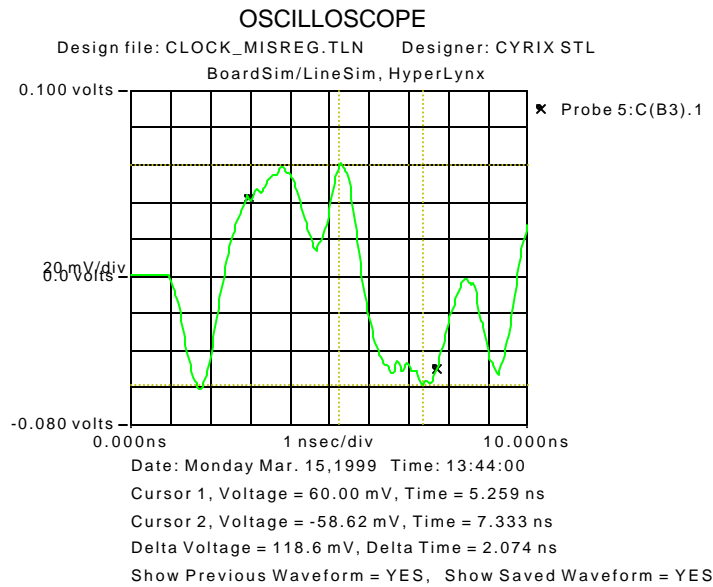

Figure 3. Crosstalk Injected On a Victim Net Due to Nearby 133 MHz Clock.
2. Meeting signal integrity requirements. Two important signal integrity requirements are reducing crosstalk to an acceptable level and minimizing ringing at the receiver pins. In order to reduce ringing, the clock trace to the processor should be less than 6.5 inches. In addition, there should be a minimum spacing of 24 mils between the clock and all other traces to reduce the crosstalk to an acceptable level. If this spacing rule is not adhered to, your board may exhibit stability problems which are very difficult to resolve. GTL+ signals are particular sensitive to crosstalk. As an illustration, Figure 3 shows a picture of the crosstalk injected on a 6 inch trace which has a spacing of 24 mils from the CPU clock buffer of an ICS9250-10. A series termination of 33 ohms is used on both the CPU clock trace and the victim trace. The transmission line characteristic impedance in this simulation is 67 ohms.